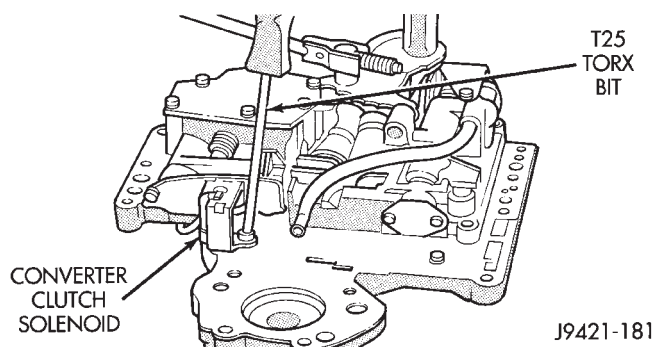

Fig. 120 Installing Converter Clutch Solenoid
(1) Lubricate valve body bores, valves and plugs with Mopar ATF Plus transmission fluid.
(2) Insert rear clutch and rear servo check balls in transfer plate (Fig. 120).
(3) Install filter screen in separator plate (Fig. 120).
(4) Align and install separator plate on transfer plate. Verify check ball position before installing separator plate on transfer plate.
(5) Install new O-ring on converter clutch solenoid and insert solenoid in separator plate (Fig. 120). Then secure solenoid in position with attaching screw. Tighten screw to 4 N·m (35 in. lbs.) torque.